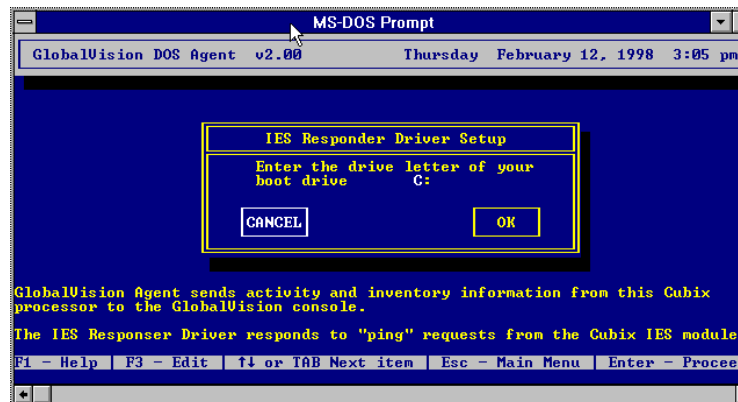

Figure 56 – IES Responder Driver Setup, Driver Letter
4. The **IES RESPONDER DRIVER SETUP (DRIVE LETTER) SCREEN APPEARS NEXT**. Enter the drive letter of the boot drive of the computer board into the drive letter text box. Click **OK** to continue installation. See Figure 56.